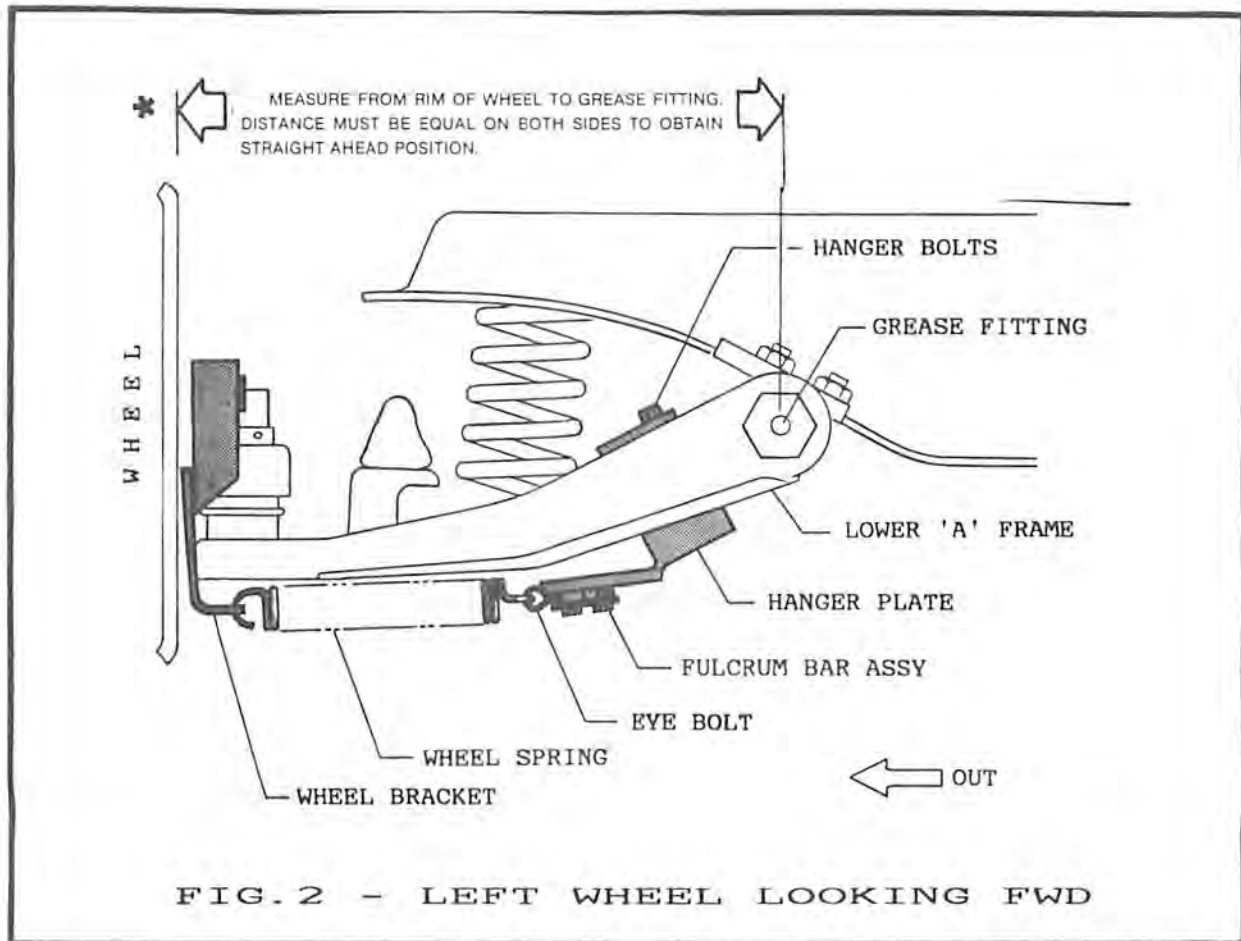

FIGURE 2
**\* MEASUREMENT MUST BE THE SAME ON BOTH SIDES OF VEHICLE (SEE FIGURE 2) \***
3. With bolts hanging toward ground, place upper plate OVER lower "A" frame suspension arm. (Figure 2)